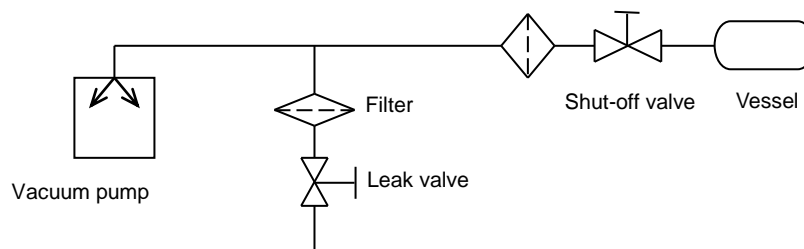

Fig. 3-2 Example of Piping Used When Evacuating a Vessel
- 5) When evacuating a vessel, ensure that a shut-off valve is placed between the pump inlet pipe and the vessel (see Fig. 3.2).